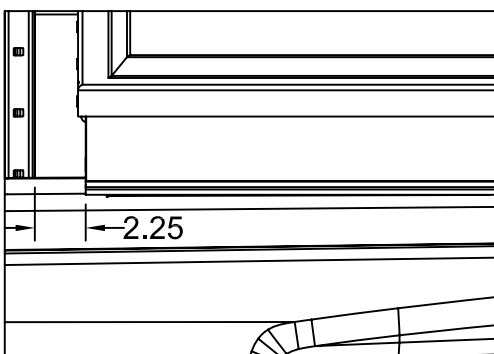

Fig. 16
19. Measure gap between the back of the box and the header board of the vehicle. The gap should be the same on both driver and passenger side of vehicle. (See Fig. 16)